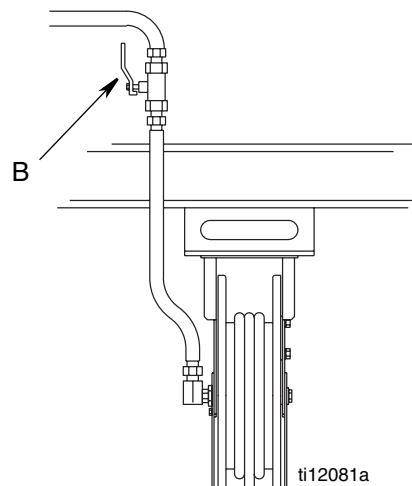

FIG. 7
4. Open all dispense position shut-off valves (B, FIG. 7) and start the pump to pressurize the system. See **Operation**, (LDM5 Meters - page 11; LDP5 Meters - page 20), for proper operation of meter.